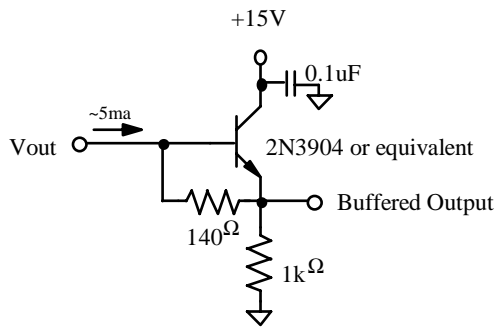

Figure 4 - Recommended Output Structure Load Diagram
Charge presented to the floating diffusion (FD) is converted into a voltage and current amplified in order to drive off-chip loads. The resulting voltage change seen at the output is linearly related to the amount of charge placed on FD. Once the signal has been sampled by the system electronics, the reset gate (ΦR) is clocked to remove the signal and FD is reset to the potential applied by V_{rd} . More signal at the floating diffusion reduces the voltage seen at the output pin. In order to activate the output structure, an off-chip load must be added to the V_{out} pin of the device - see Figure 4.